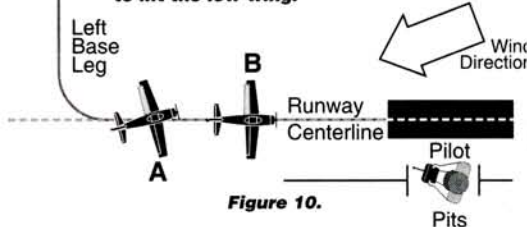

Figure 10.
- If the plane starts to flip or drift in toward you, add more left aileron: *move the aileron stick to your left* (see Figure 10, plane A).
To cross-control for the landing, use left aileron—*move the aileron stick to your left*—and right rudder: *move the rudder stick to your right* (see Figure 10, plane B).